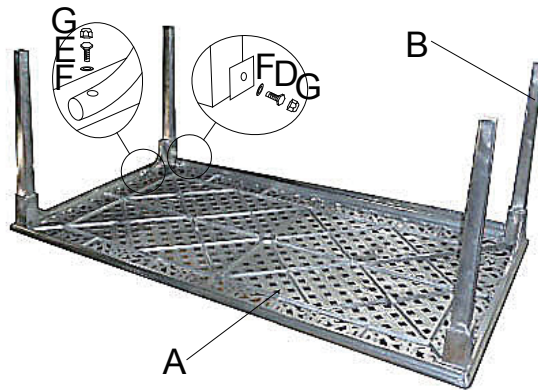

Figure 1
Step 1. Carefully place the table top (A) upside down on a non-abrasive surface.
Step 2. Assemble the table legs (B) to the table top (A) with bolts (D&E) and washer (F) as shown in figure 1.